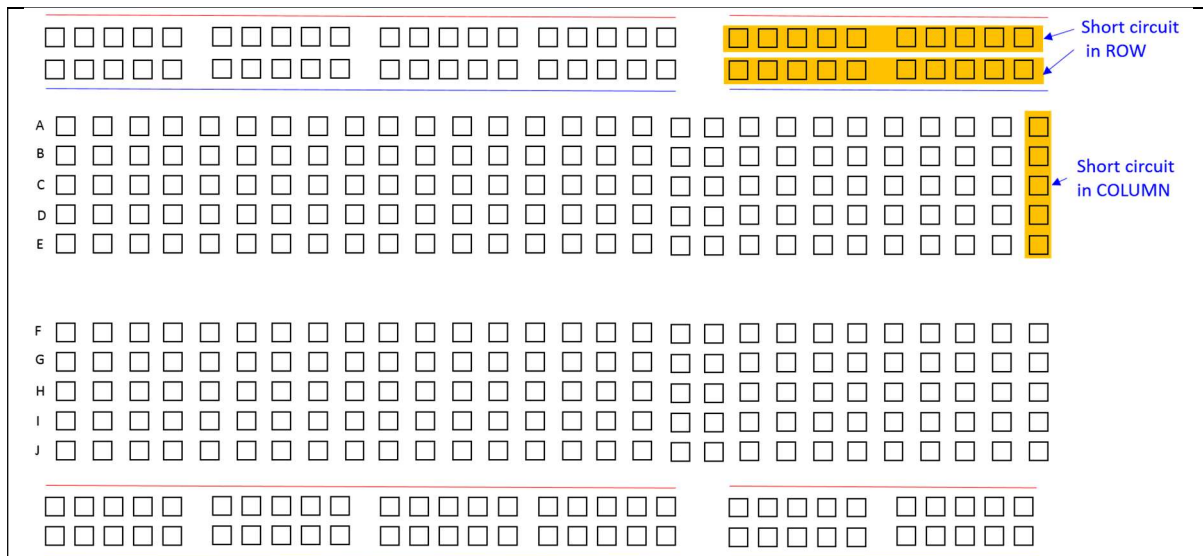

Figure-3.6: A part of breadboard
2. In the matrix part, there are RED and BLACK (or blue) lines indicating the holes along the line form in ROWs and are connected together by metal at the back. (at the top and bottom of Figure-3.6).
3. Other holes between two groups of red and black lines are formed in COLUMNs and are connected together by metal. (One column is highlighted for illustration purpose at the center right of Figure-3.6.)